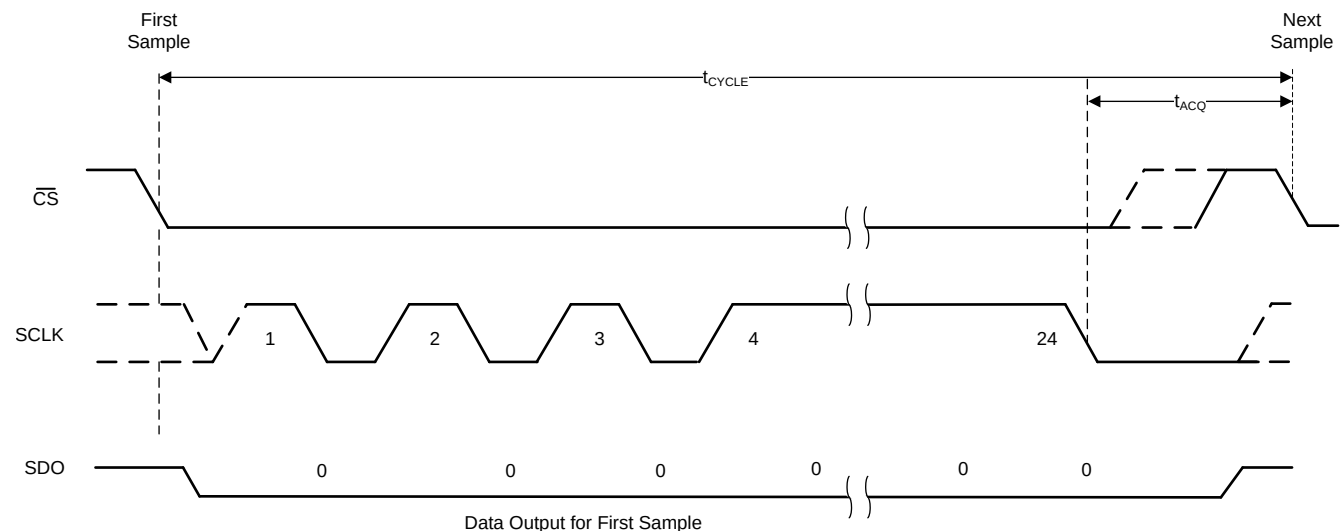
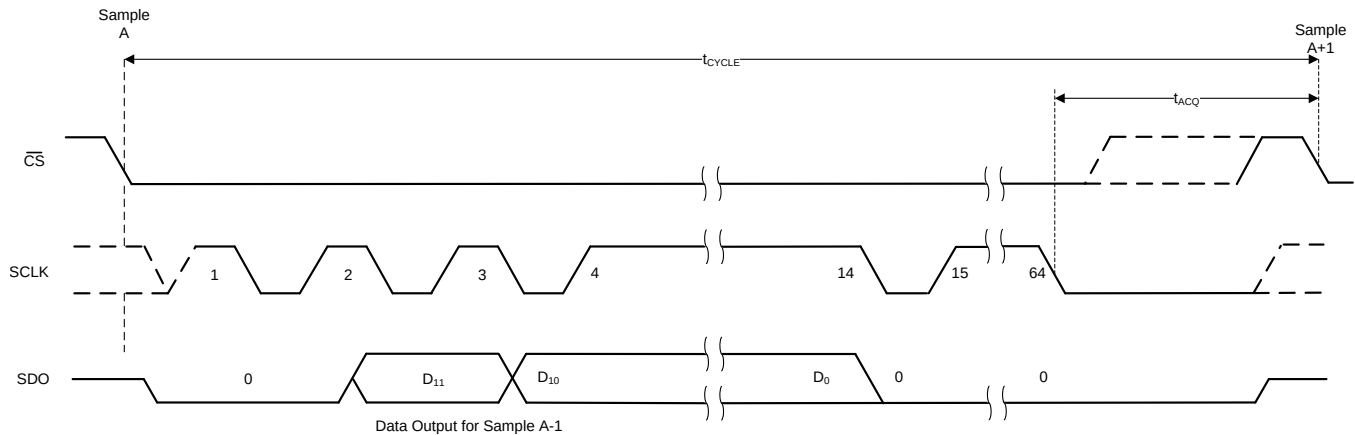

Figure 38. Timing for Offset Calibration on Power-Up
Figure 39. Timing for Offset Calibration During Normal Operation
The host controller must provide a serial transfer frame as described in Figure 38 or in Figure 39 to enter the OFFCAL state.
If the host controller starts the offset calibration process but then pulls the $\overline{CS}$ pin high before providing 24 SCLKs, then the offset calibration process is aborted and the device enters the ACQ state. Figure 38 and Table 3 provide the timing for offset calibration on power-up.
(1) In addition to the timing specifications of Figure 38 and Table 3, the timing specifications described in Figure 2 and the Timing Requirements table are also applicable for offset calibration on power-up.
If the host controller provides more than 15 SCLKs but pulls the $\overline{CS}$ high before providing 64 SCLKs, then the offset calibration process is aborted and the device enters the ACQ state. Figure 39 and Table 4 provide the timing for offset calibration during normal operation.
- (1) In addition to the timing specifications of Figure 39 and Table 4, the timing specifications described in Figure 2 and the Timing Requirements table are also applicable for offset calibration during normal operation.